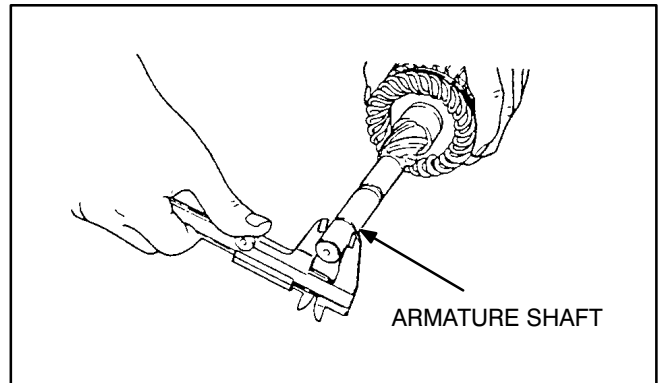

FIGURE 6-32. MEASURING ARMATURE SHAFT O.D.
2. Measure the armature shaft O.D. on both ends (Figure 6-32).